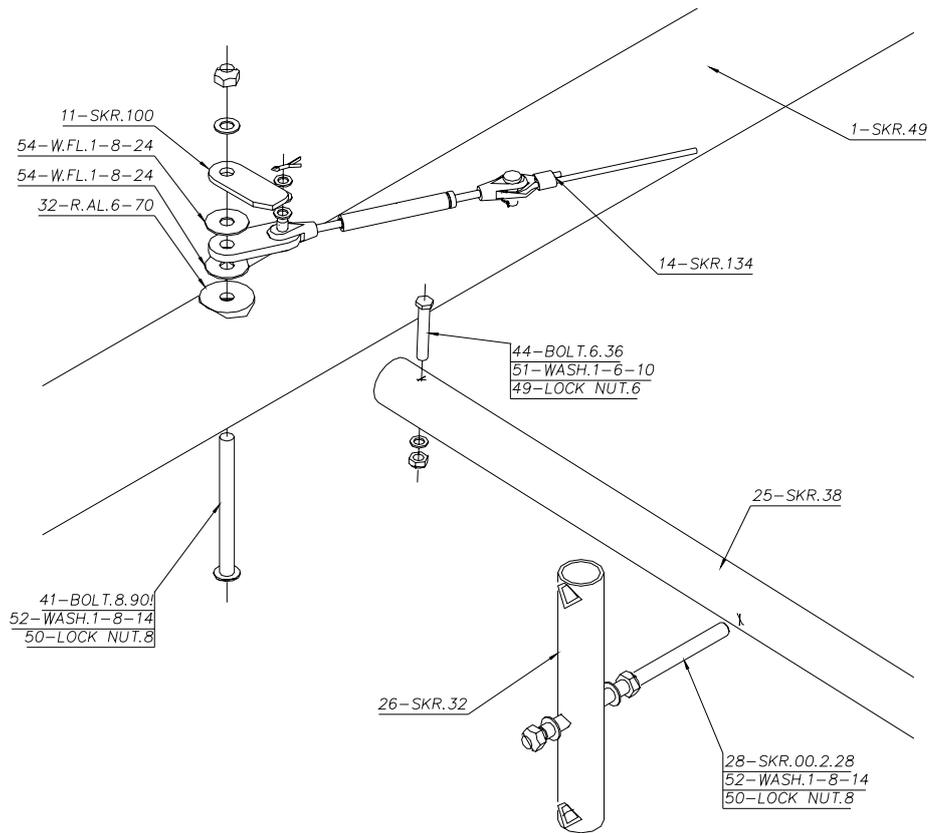
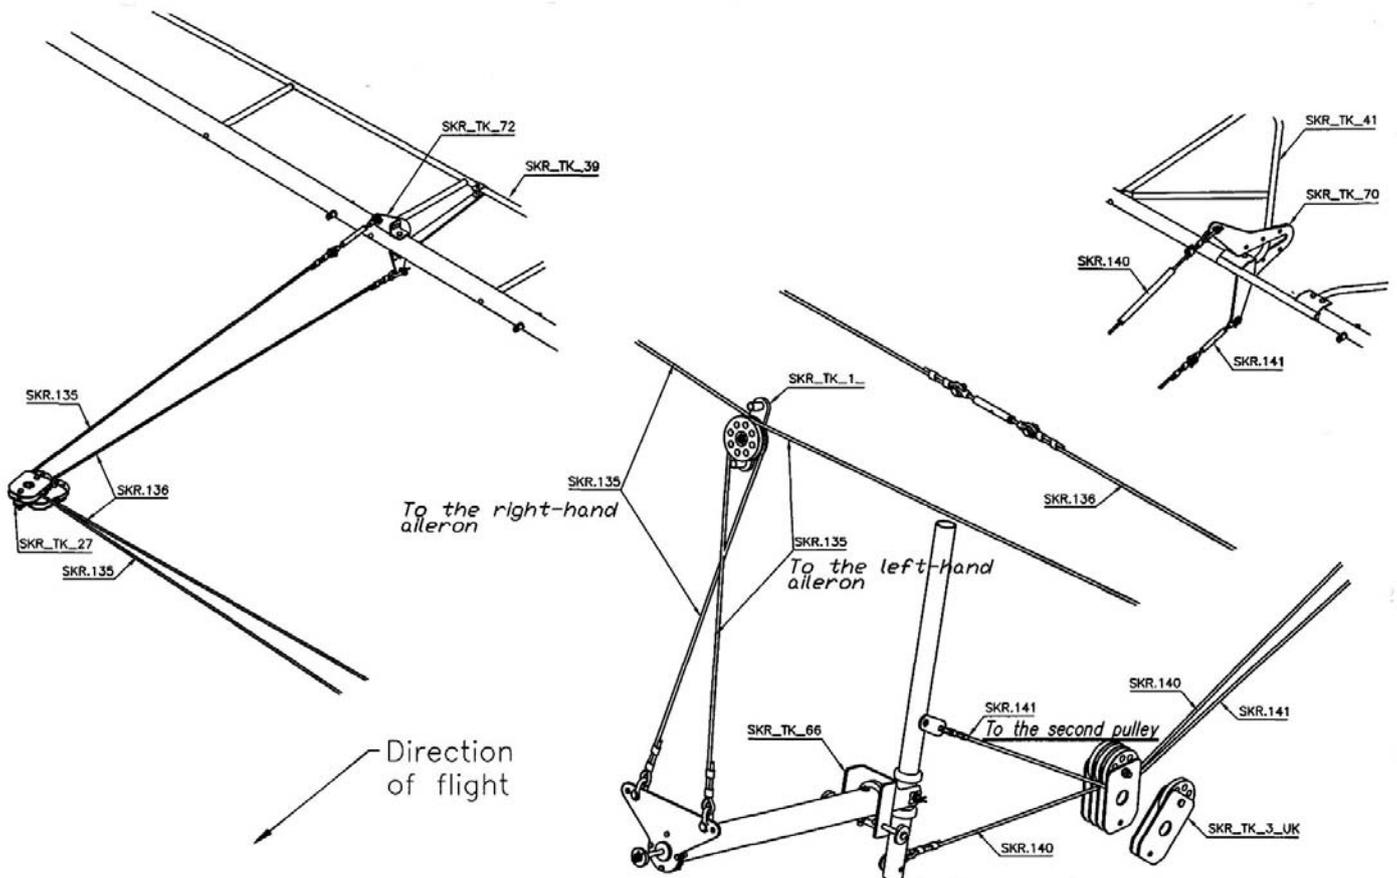

Figure 152; front of tensioning tube.
Figure 159; aileron cable runs.
- e) Lift the struts up to the wing and attach them to the leading and trailing edges, Figure 152 and Figure 159